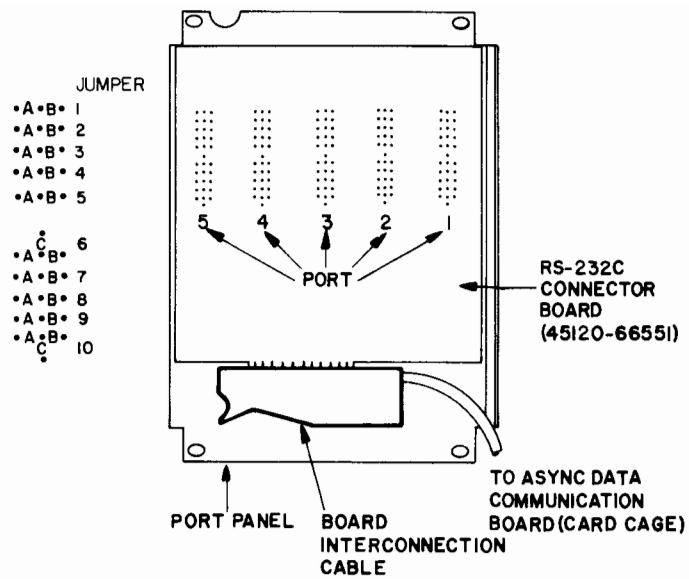

Figure 8-3: RS-232 Connector Panel Assembly
7. Connect the Board Interconnection Cable to the RS-232C Connector Board. See Figure 8-3: RS-232C Connector Panel Assembly.